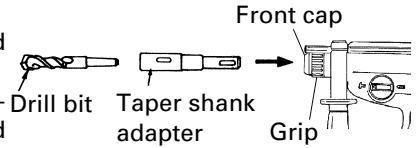
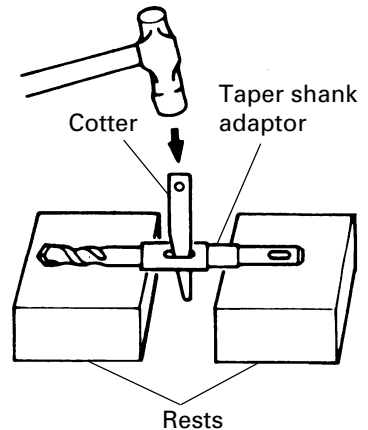

Fig. 17
Fig. 18
- (1) Mount the taper shank adaptor to the rotary hammer. (Fig. 17)
- (2) Mount the drill bit (taper shank) to the taper shank adaptor. (Fig. 17)
- (3) Turn the switch ON, and drill a hole in prescribed depth.
- (4) To remove the drill bit (taper shank), insert the cotter into the slot of the taper shank adaptor and strike the head of the cotter with a hammer supporting on the rests. (Fig. 18)